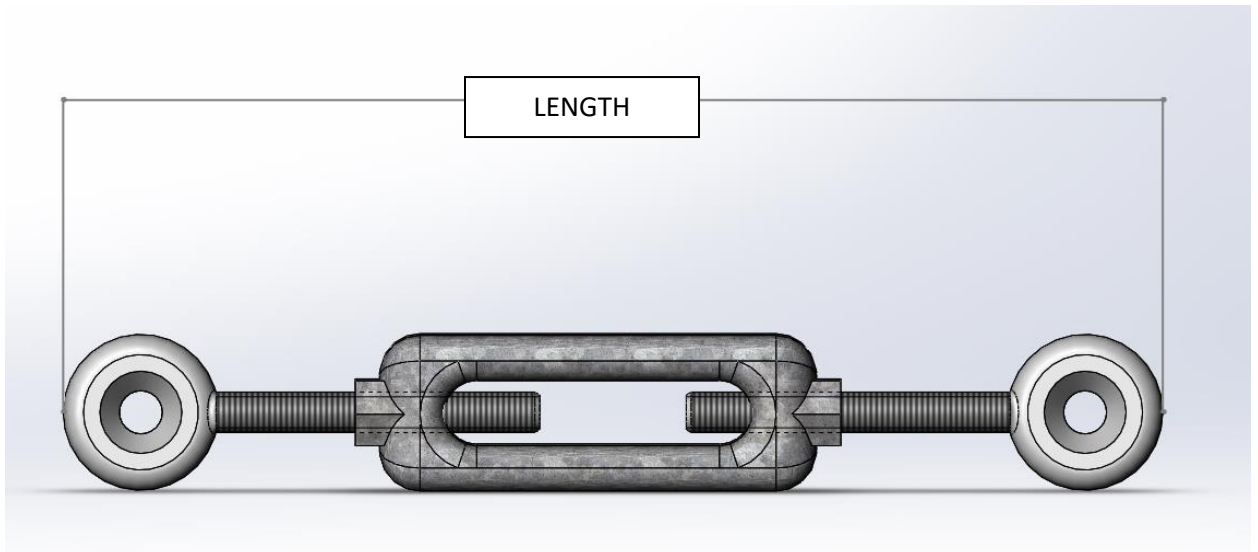

Figure 6
8. Make sure that both speakers have the same angle. You can do this by measuring the overall length of the turnbuckles. When all four are the same, the angles are the same. See figure 6